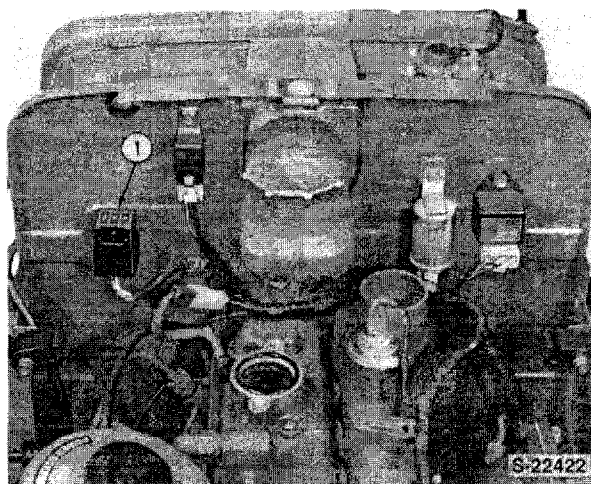

Figure 8
The fuse box (1), Figure 8, is located on the forward side of the engine baffle plate.